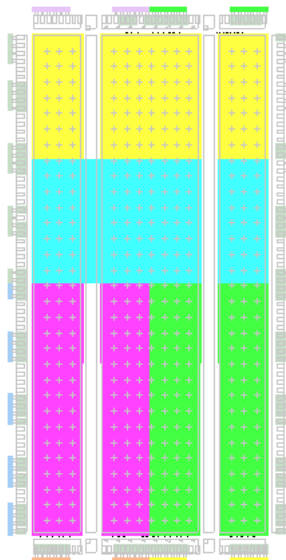

Figure 7: Design Fully Partitioned Into Area Groups
- Repeat steps 5-7 for each of the remaining Logic Groups. When completed, the Area Groups may look something similar to what is shown in Figure 7.